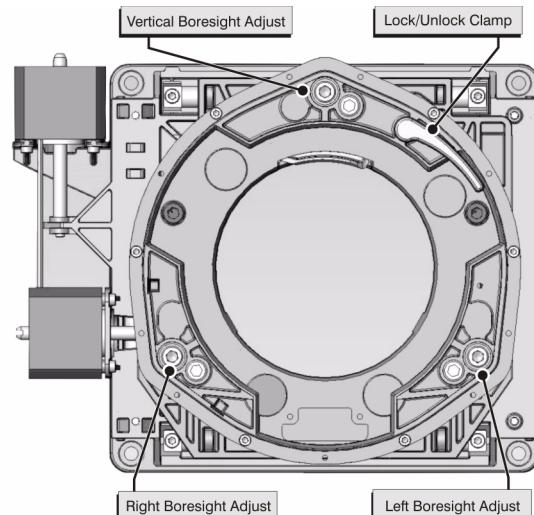

FIGURE 3-11 LENS MOUNT
1) Projector must be fully assembled and powered up in its final location. **2)** Install the auxiliary lens, if it will be used at the site. **3)** A 3/16" and 5mm Allen® key are needed to make the required adjustments (**Figure 3-11**).